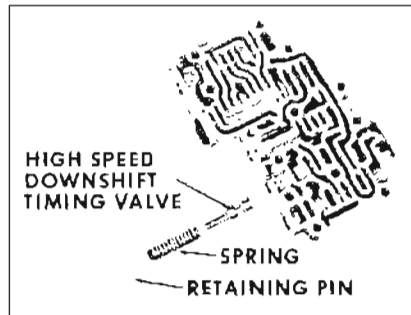

Figure 5-172
1. Install high speed down shift timing valve and spring. Depress spring with J-21547-1 and install retaining pin. See Figure 5-172.